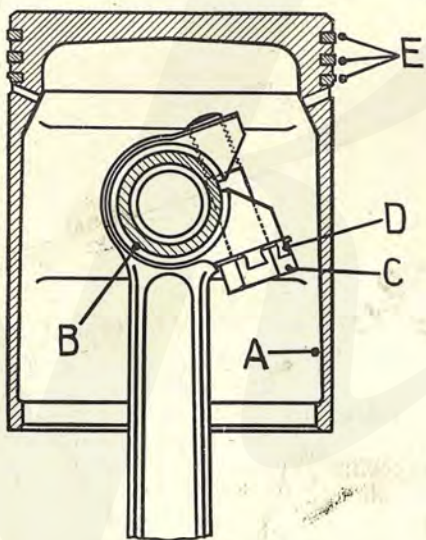

Fig. 5—Arrangement of Piston.
**Pistons.**—The hollow gudgeon pins are fixed in the split small ends of the connecting rods by the clamping screws C (see Fig. 5) which are in turn locked by the upturned tongues on the locking washers D. These tongues must be turned down flat before the locking screw can be withdrawn and it is necessary to completely remove this screw before the gudgeon pin can be removed.